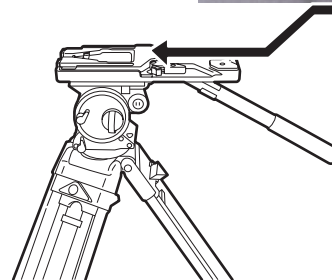

Fig. 2
- 2 Mount the camera on the tripod adaptor. (Fig. 2)